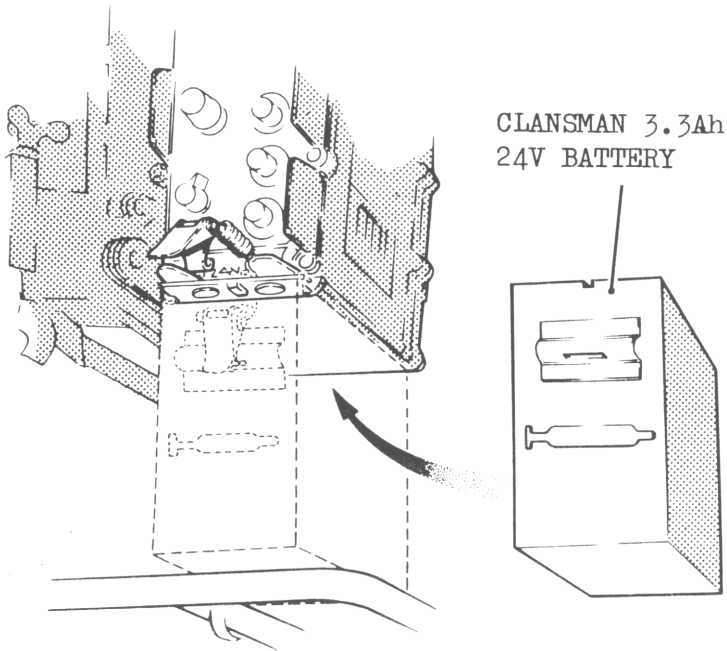

Fig.4a Fitting Battery
2.3 Connecting battery to RT320 (Fig.4a & b).